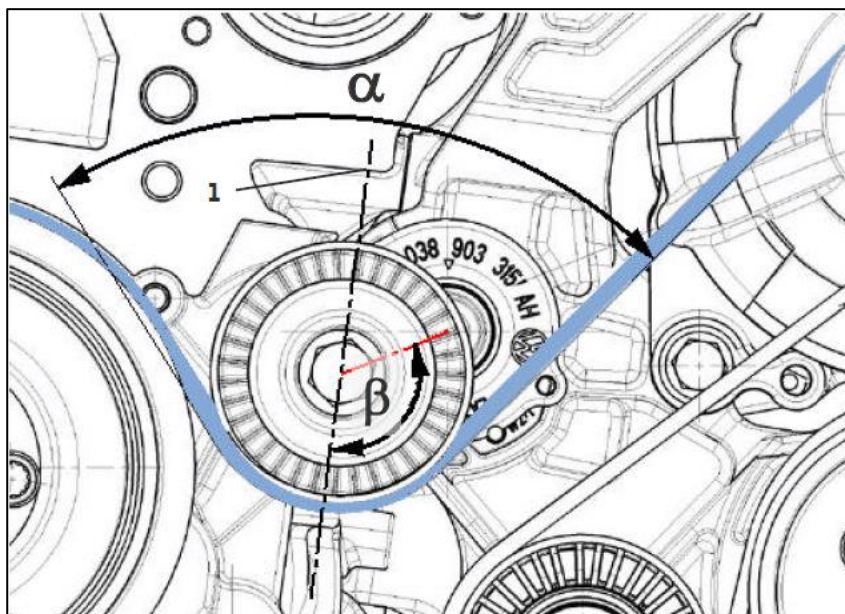

Fig. 9: Belt routing around the belt tensioner
The function of the belt tensioner can be significantly impaired if the belt routing is changed from that of series production and passed over the idler roller of the belt tensioner. The bisector (1) between the arriving and departing sides of the belt should be almost at right angles ($\beta \approx 90^\circ$) to the lever arm of the belt tensioner in the working area. (Fig. 9)